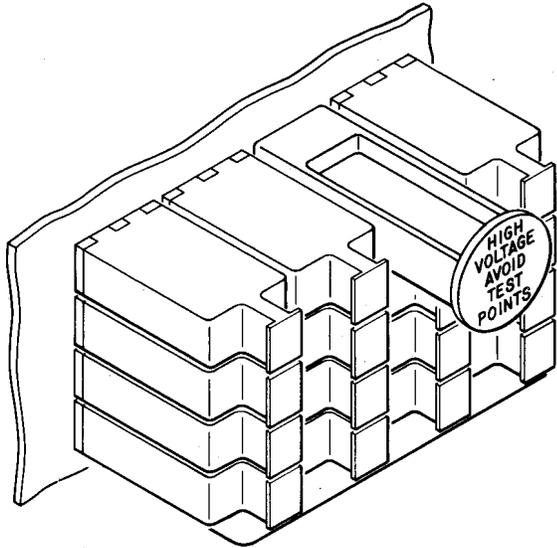

Fig. 6—E Warning Marker Installed on 302-Type Connector (Installed Similarly on 308-Type Connector)
3.02 The ***E warning marker (AT-8590)*** is a red molded plastic unit with white lettering at one end and three prongs on the other end. This warning marker is inserted in place of the protector unit as shown in Fig. 6 to alert personnel of applied high voltage on a particular outside-plant pair.